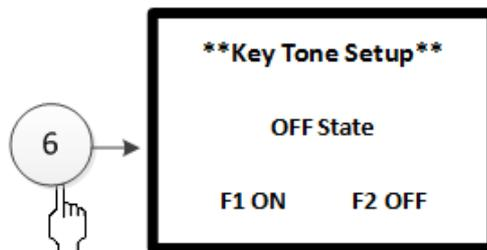

Fig. 3-24
⑥ Key Sound
Enter the screen as shown in Fig. 3-24 by pressing number 6 or moving cursor to select ⑥. In this screen, pressing “F1” is Open and “F2” is Close. Pressing ESC after selection is back.